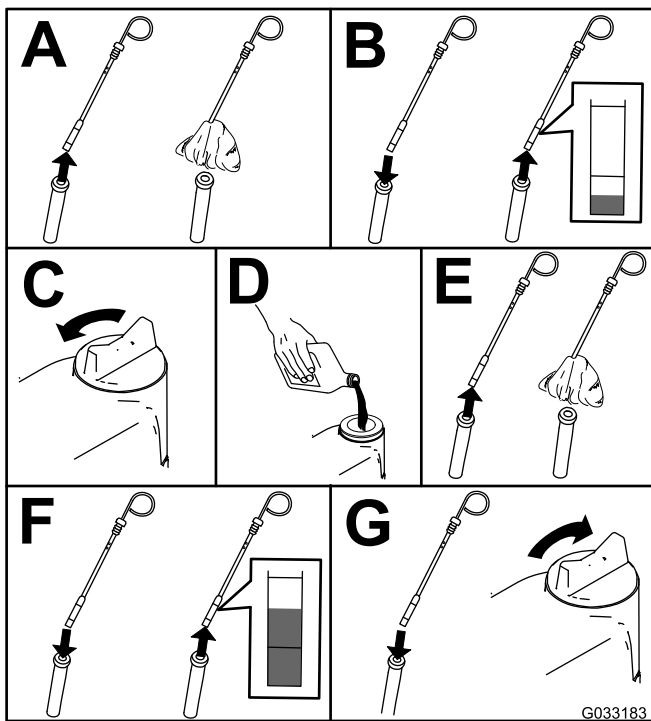

Figure 48
2. Check the engine-oil level (Figure 48).